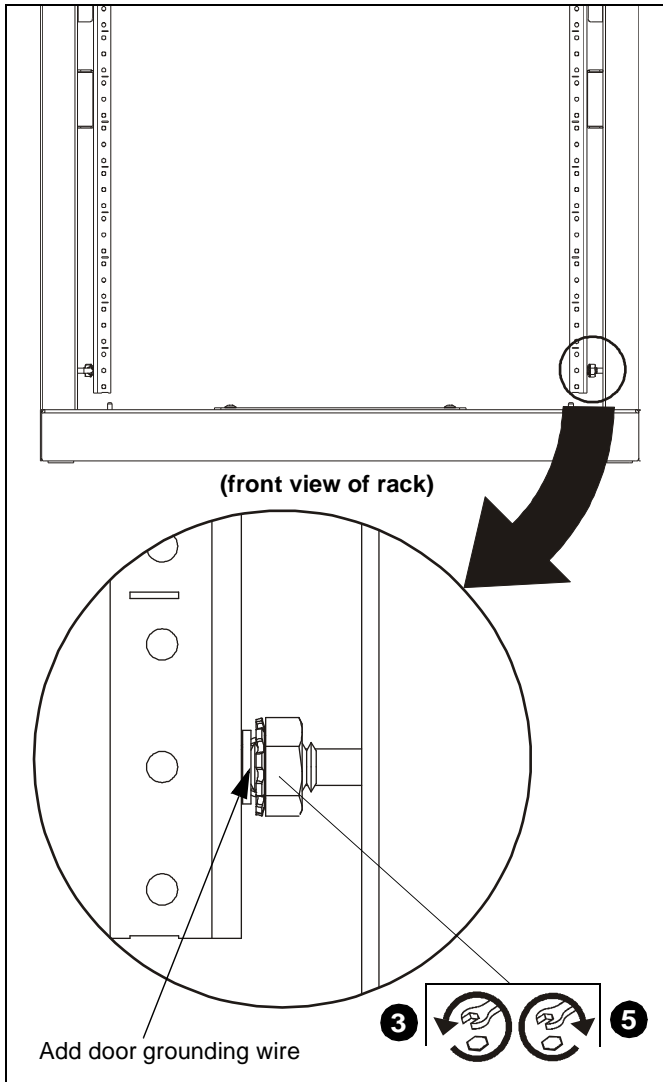

Figure 4
3. Remove and save nut from the grounding lug on side rail. (See Figure 4)
4. Attach grounding wire from door to the grounding lug. (See Figure 4)
5. Replace and tighten nut onto grounding lug. (See Figure 4)